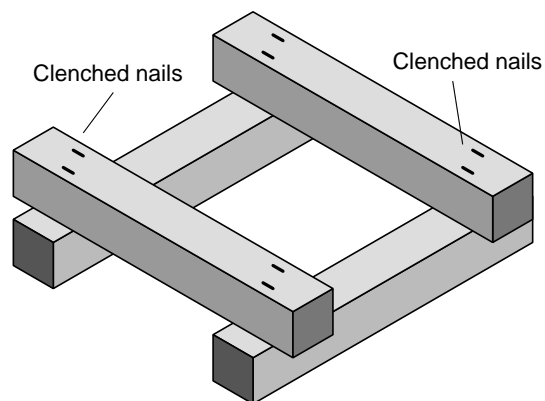
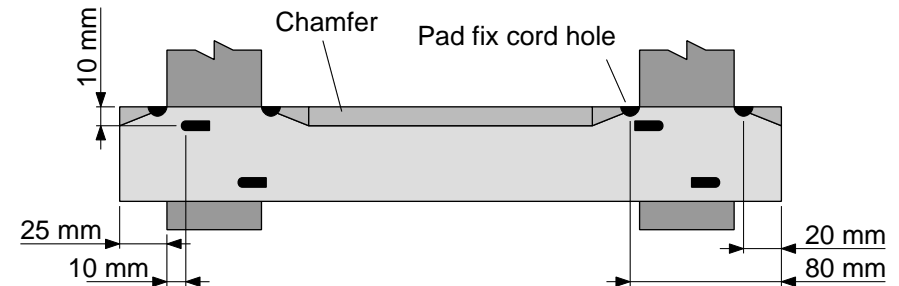
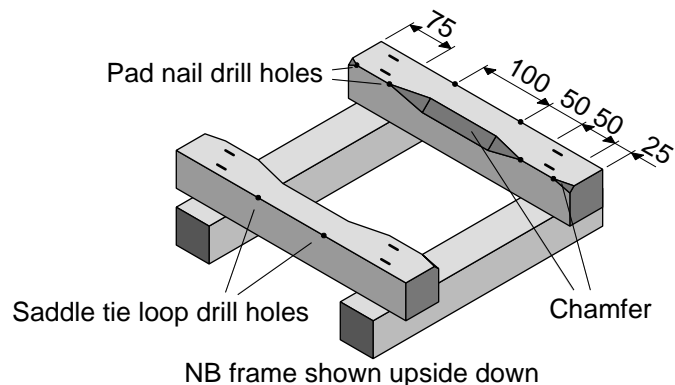
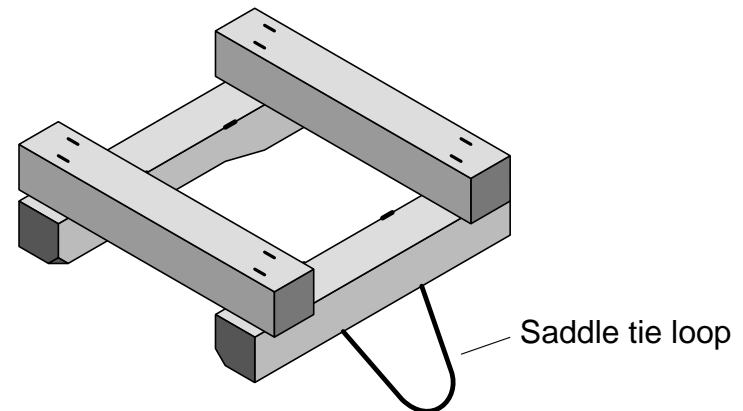

Figure 4: clench nailed frame.
Figure 6: frame joint clench nail layout and pad fix holes.
Figure 7: chamfered inside of frame.
Figure 8: tie loops fitted through holes drilled in frame.
- 2) Make up the frame as shown in Figure 4. Each of the four corner joints is made by clench nailing with pieces of R5 or R6 (5 or 6 mm diameter round steel bar or rod often used concrete reinforcement) through holes drilled in the wood (to make sure the wood does not split). Figure 6 shows the layout of the hole positions.
- 4) Drill holes for the saddle tie loop on each side of the saddle frame in the positions shown in Figure 7. Hammer in the loops and clench the ends over so that the frame looks as shown in Figure 8. As before the drilled holes should be smaller than the round bar.
- 5) Chamfer the inside of the frame as shown in Figure 6 and Figure 7.
- 8) Now drill the holes required to accommodate the load pad fixing cord in the saddle frame. These holes should be 20 mm and 80 mm from the ends of the timber frame as shown in Figure 7.